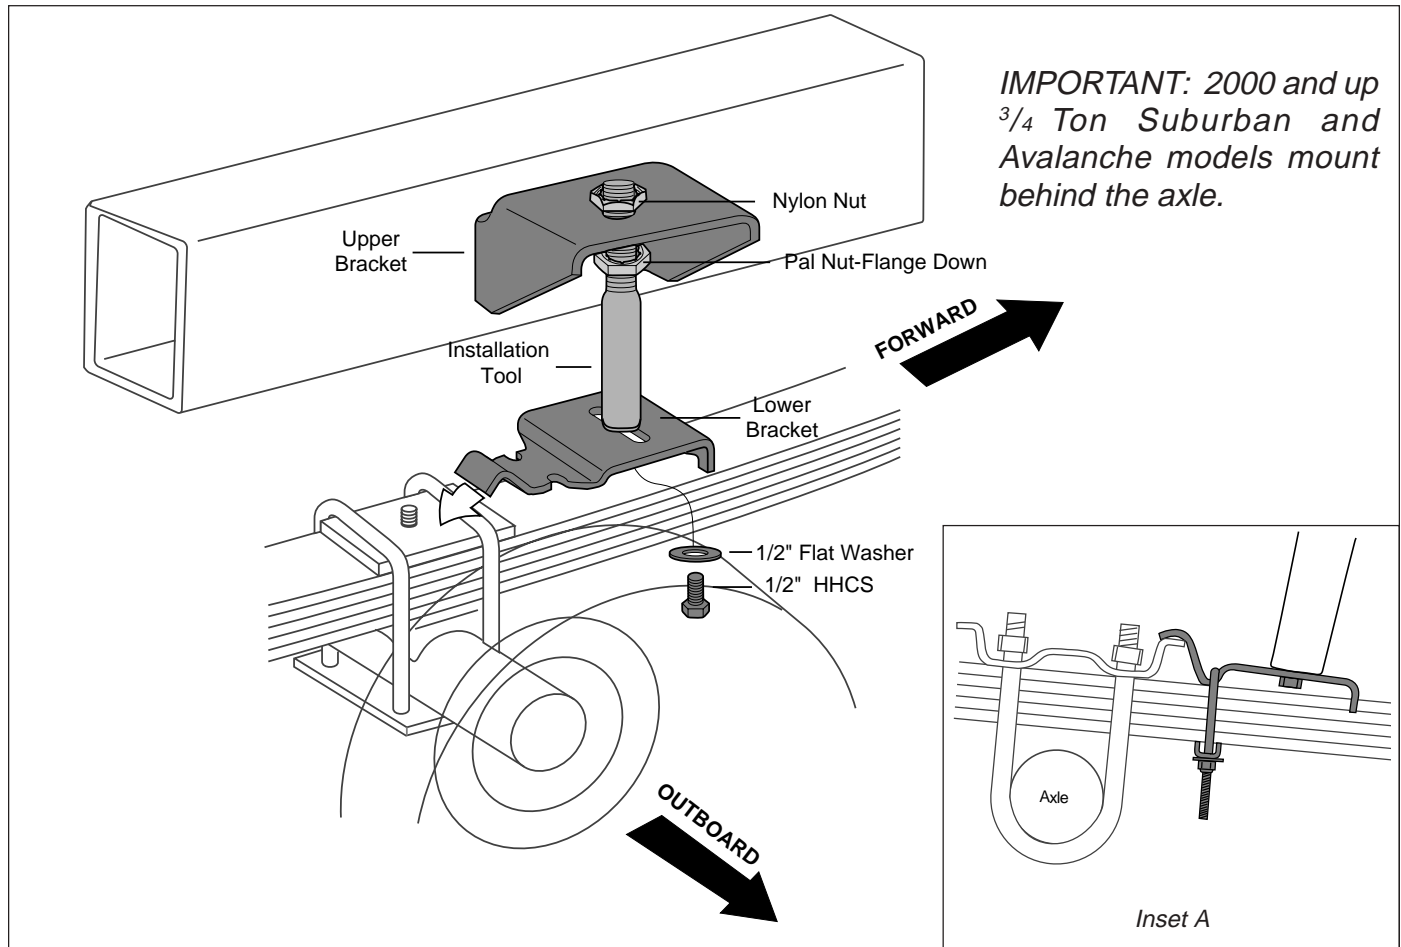

Figure 1
1. Place the upper bracket onto the threaded end of the tool and rest the bracket on the bottom Pal nut (flange down). Then thread a nylon nut onto the tool to hold the bracket in place (Figure 1).
2. Use a 1/2" flat washer and the 1/2" x 7/8" bolt to attach the lower bracket to the bottom of the installation tool. Leave just loose enough to adjust in and out (Figure 1).
4. With the hook end of the lower bracket placed over the existing U-bolt or Spring Retainer, secure the lower bracket to the leaf spring with the provided U-bolt, flat washers, and lock nuts. Torque to 16 ft-lbs (Figure 1 and Inset A).
IMPORTANT: There must be at least 1.5" above the upper bracket for air fitting clearance. The brackets can be mounted anywhere within the threaded range of the installation tool (Figure 1).
If the vehicle's headlights are shining into the trees or the vehicle is leaning to one side, then it is not level (fig. 1). Raise the air pressure to correct either of these problems and level the vehicle.